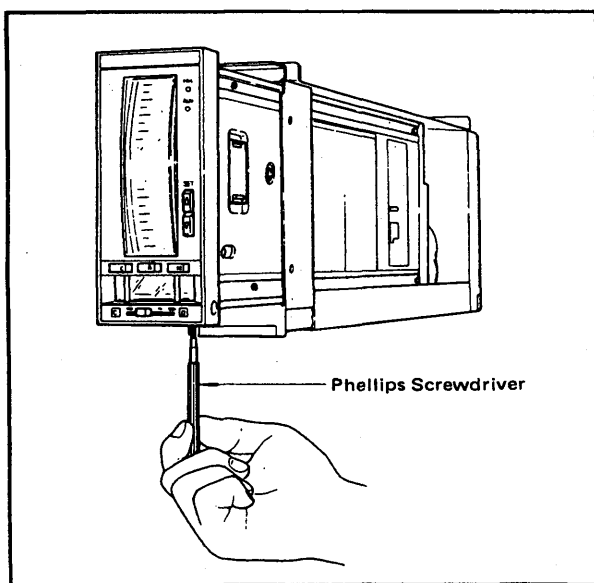

Figure 6-2-4. Zero Adjustment for Output Indicator.
- (3) If necessary, adjust the indicated value with the zero adjustment shown in Figure 6-2-4.
- (4) Set the pointer to the 0%, 25%, 75% and 100% major graduation points on the scale. Insure that the output current is 4 mA, 8 mA, 16 mA and 20 mA respectively at these points (allowable tolerance  $\pm 2.5\%$ )
- (5) If any of the points in step (4) is out-of-tolerance, repeat step (2) and adjust the zero adjustment while keeping the indicated value within the allowable tolerance.
- (6) Repeat step 4. Repeat steps 4 and 5 until every major graduation point falls within tolerance.